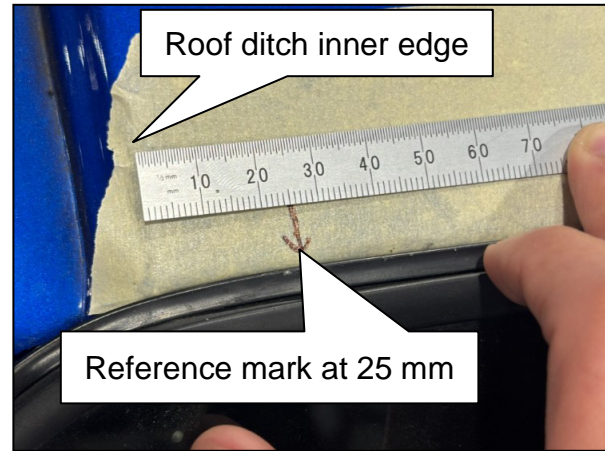

Figure 11
4. Place a flat ruler on the masking tape and align the starting edge with the roof ditch inner edge, as shown in Figure 11.